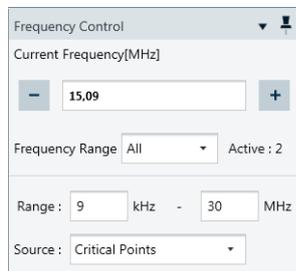

Figure 7-8: Frequency control dialog
"Start Reverse" is available only in interactive measurement mode, and only, if "Source" = "Critical Points" is selected in the **Frequency Control** dialog (see Figure 7-8), while critical points are available.
- In interactive measurement mode, this button starts (or resumes) a measurement from the **current critical frequency point** to the highest critical frequency point. The measured values are labeled as "Critical Points" in the "Source" column of the results table. If no critical points are available, the button has no effect. The "Start" button is only available, if "Source" = "Critical Points" is selected in the **Frequency Control** dialog (see Figure 7-8).
Without changing the frequency, it starts an interactive measurement (or "single measurement") at the frequency point that is selected in the Frequency Control dialog (see Figure 7-8). The measured value appears in bold font in the lowest row of the results table.